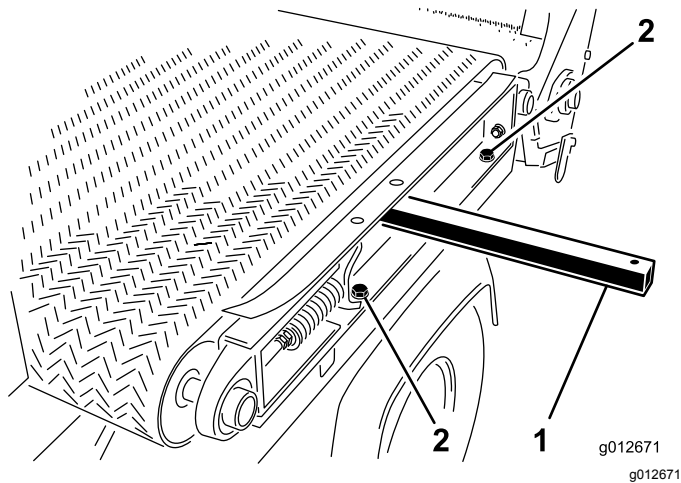

Figure 29
1. At the left side of machine, assemble the slider-frame rail to the left fender (Figure 29) with the 2 capscrews and 2 washers that you removed in Disassembling the Slider Bed \(page 24\), and tighten the capscrews.